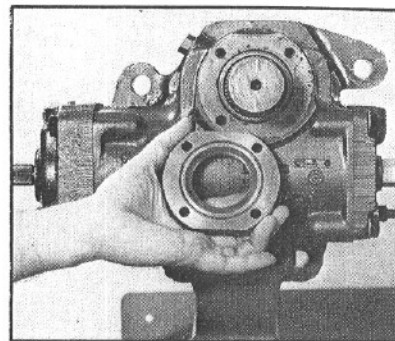

Figure 37
5. Remove the trunnion cover (26) (FIG. 37). Remove and discard the trunnion cover O-ring (25) from the trunnion cover, and the Teflon backup washer (24) and the two-piece sector shaft seal (23).